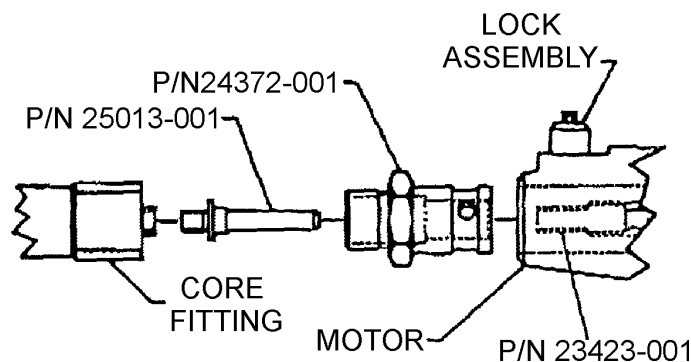

Figure 2. Motor End Bell
6. Because all of these units use the quick disconnect system, Model 314 Q.D. coupling must be used (Figure 2). Reference P/N 24380-402, which includes the spindle P/N 25013-001 and coupling P/N 24372-001.